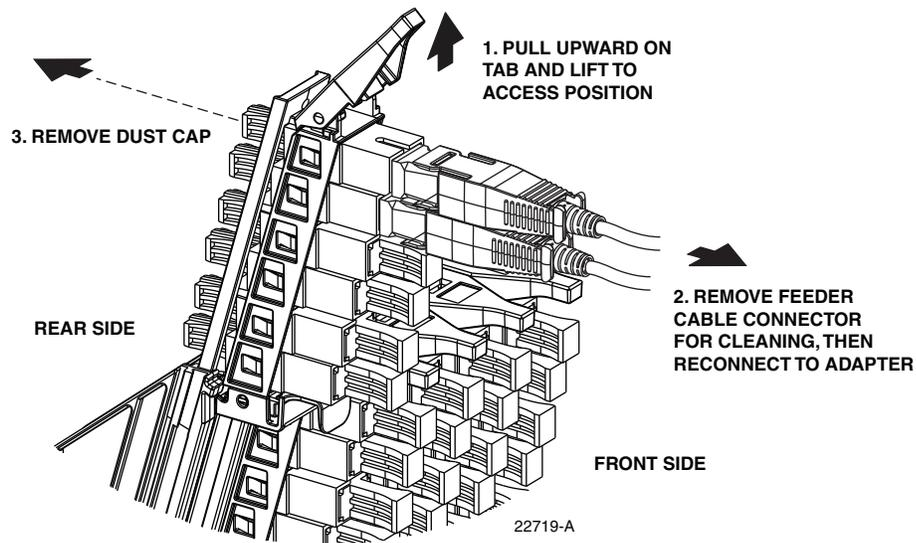

Figure 14. Adapter Pack Raised to Access Position
2. Pull upward on the small tab on top of the adapter pack and lift the adapter pack to the access position as shown in Figure 14
2. Pull upward on the small tab on top of the adapter pack and lift the adapter pack to the access position as shown in Figure 14.